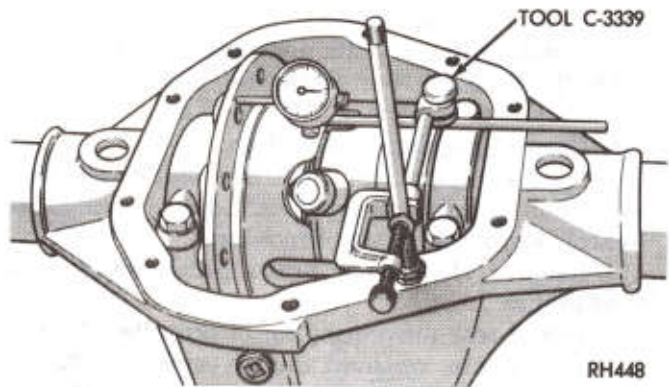

Fig. 6—Measuring Differential Case Drive Gear Mounting Flange Face Runout
(11) Remove dial indicator and remove differential case and ring gear assembly from axle housing. A light prying action with a screwdriver or pinch bar will loosen assembly for easy removal. Pry up differential case and ring gear as straight up as possible using leverage against differential case and carrier to prevent damage. Keep respective bearing cups with bearing cones, if they are not worn or damaged and are to be reassembled.
(12) Place the differential case between the soft jaws of a vise and remove and **DISCARD** the drive gear screws. Using a fiber mallet, tap the drive gear loose from the differential case pilot and remove.
(13) If the drive gear runout exceeded .006 inch (.15 mm) in step 5 differential case flange runout should be remeasured. Install differential case with respective bearing cups into axle housing. Loosen nut of spreader tool and remove. Install bearing caps and tighten snugly. Mount dial indicator in contact with flange face of differential case (Fig. 6), and measure runout as described in Step 5. Total allowable runout should not exceed .003 inch (.08 mm). It is often possible to reduce excessive runout by positioning drive gear 180 degrees from point of maximum runout